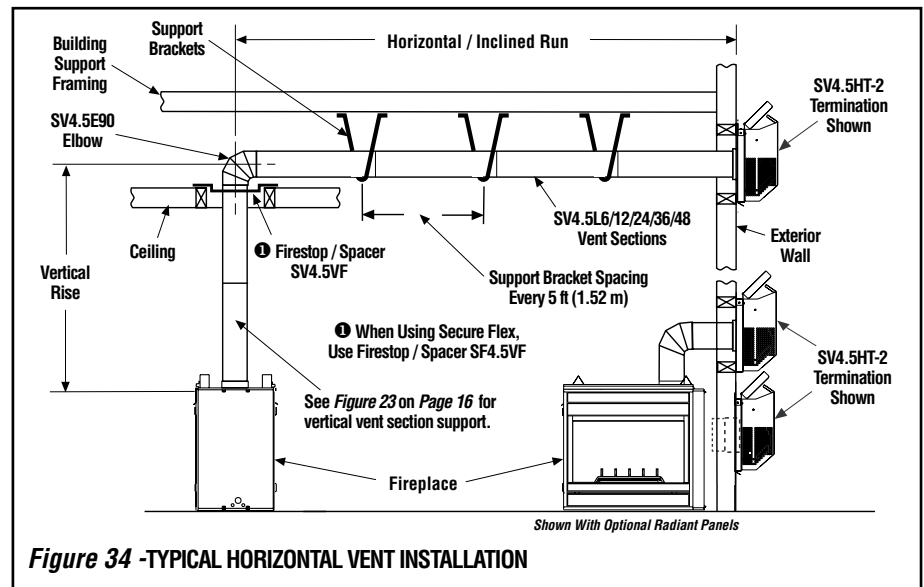

Figure 34 - TYPICAL HORIZONTAL VENT INSTALLATION
Figures 34, and Figures 37 to 42 on pages 22 to 24 and their associated Horizontal Vent Table illustrate the various horizontal venting configurations that are possible for use with these appliances. **Secure Vent** pipe applications are shown in these figures; **Secure Flex** pipe may also be used. A Horizontal Vent Table summarizes each system's minimum and maximum vertical and horizontal length values that can be used to design and install the vent components in a variety of applications.
I. Continue installation of horizontal/inclined sections - Continue with the installation of the straight vent sections in horizontal/inclined run as described in **Step E**. Install support straps every 5 ft. (1.52 m) along horizontal/inclined vent runs using conventional plumber's tape. See **Figure 34**, it is very important that the horizontal/inclined run be maintained in a straight (no dips) and recommended to be in a slightly elevated plane, in a direction away from the fireplace of 1/4" rise per foot (20 mm per meter) which is ideal, though rise per foot run ratios that are smaller are acceptable all the way down to at or near level. Use a carpenter's level to measure from a constant surface and adjust the support straps as necessary.